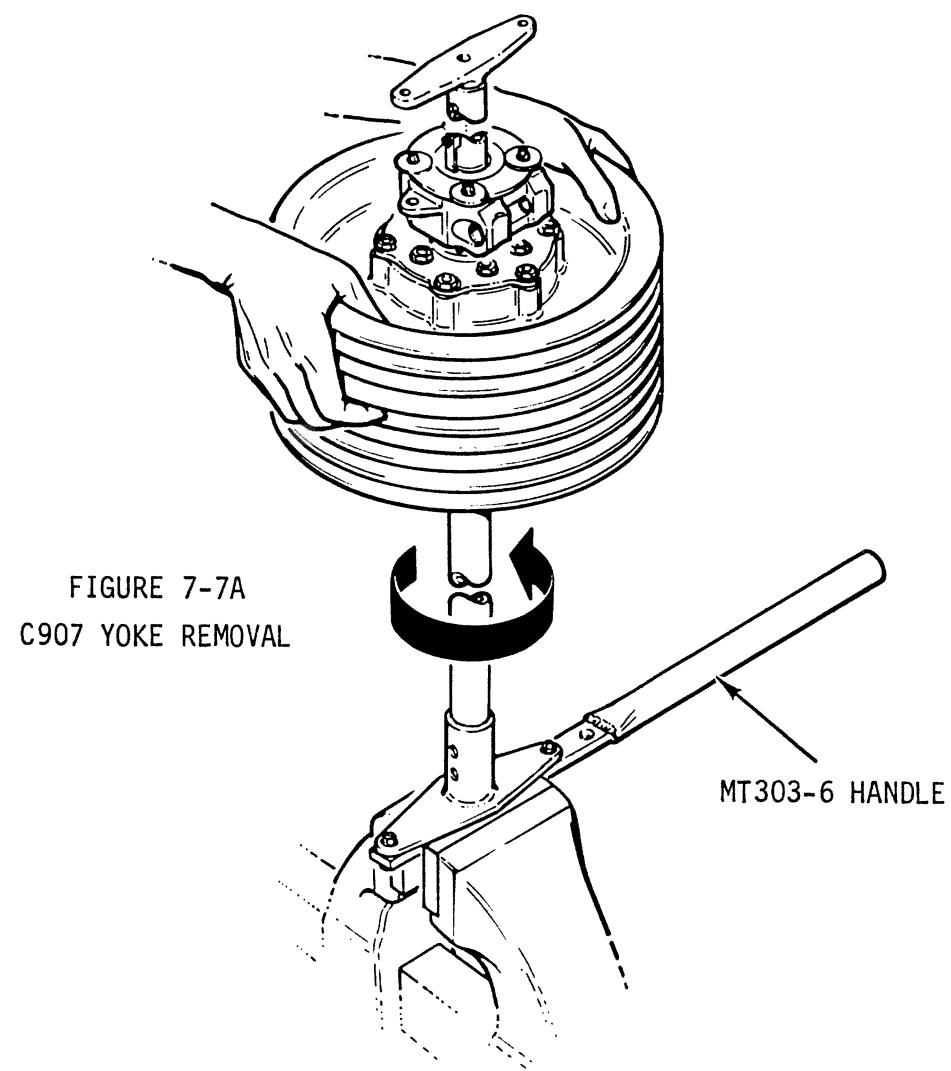

FIGURE 7-7A
2. If a press is not available, tightly secure C907 yoke arms to MT303-6 handle using NAS6606 bolts. Refer to Figure 7-7A. Clamp handle in a vise and twist clutch shaft out of yoke by turning upper sheave. Apply penetrating oil to yoke-shaft juncture as required. If difficulty is encountered, remove handle and arrange to use a press as described in preceding step.